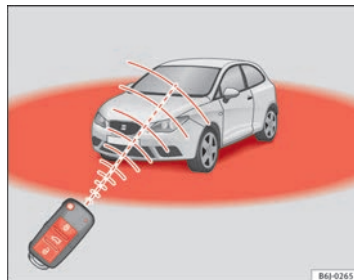

Fig. 46 Range of the remote control
- The remote control key functions only when you are within range ⇒ fig. 46.